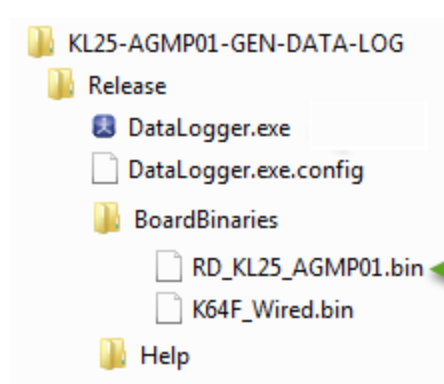

Figure 6. RD_KL25_AGMP01.bin file location
4. Copy the sample program file named **RD_KL25_AGMP01.bin** (see Figure 6) from the RD-KL25-AGMP01 software bundle in the BoardBinaries folder to the **MBED** drive.